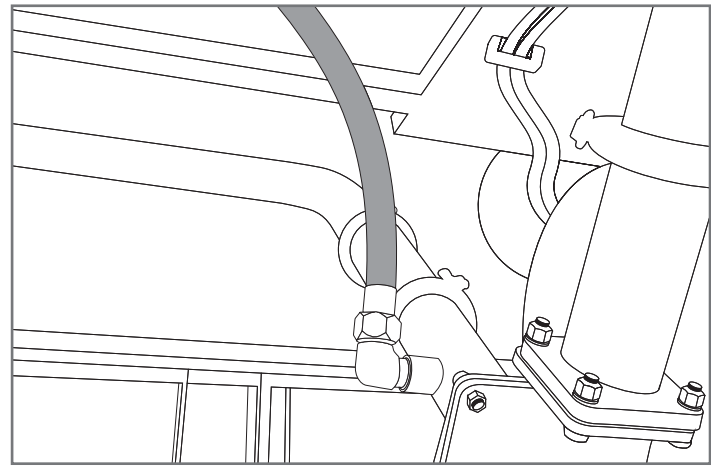

Figure 15. Coolant discharge port installed in non-turbocharged (supercharged) engine. Discharge port is located at radiator Y-pipe.
NOTE: To ensure even heat distribution, the coolant return line may be split and routed to two return ports. Size both return lines per the outlet of the heating system. For engines without an aftercooler, typical installation points are along the water line from the radiator to the engine block. See Figure 15.
- If engine is supercharged, install a single return port at the radiator Y-pipe. See Figure 15.